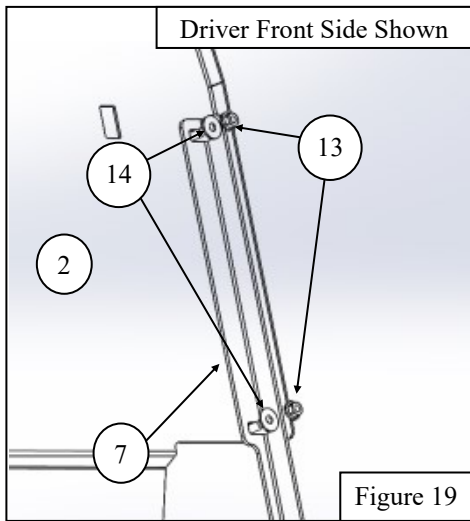

Figure 19
12. With the Driver and Passenger Floor Straps installed and the Cross Member mounted, locate and loosely install the Center Filer Panel (Item 2) to the floor straps loosely with room for adjustment using the provided M6 hardware (Items 13 & 14) and M8 hardware (Items 15, 18, & 19). See **Figure 19, 20, & 21** for reference.